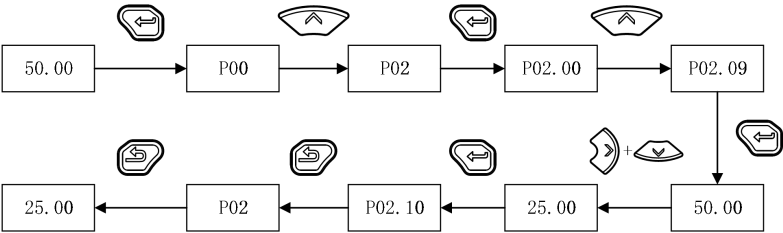

Figure 5-6 Example of frequency reference setting
- (1) When in the stop state display mode, press  to enter the level-1 menu P00;
- (2) Double press  to enter the level-1 menu P02;
- (3) Press  to enter the level-2 menu P02.00;
- (4) Press  nine times to enter the level-2 menu P02.09;
- (5) Press  to enter the level-3 menu 50.00;
- (6) Press  to select the thousands place or the hundreds place;
- (7) Press  to change 50.00 to 25.00;
- (8) Press  to confirm the setting and re-enter the level-2 menu; modification is completed;
- (9) Double press  to enter the main display view where 25.00 is displayed.
- The above processes are illustrated in Figure 5-6.